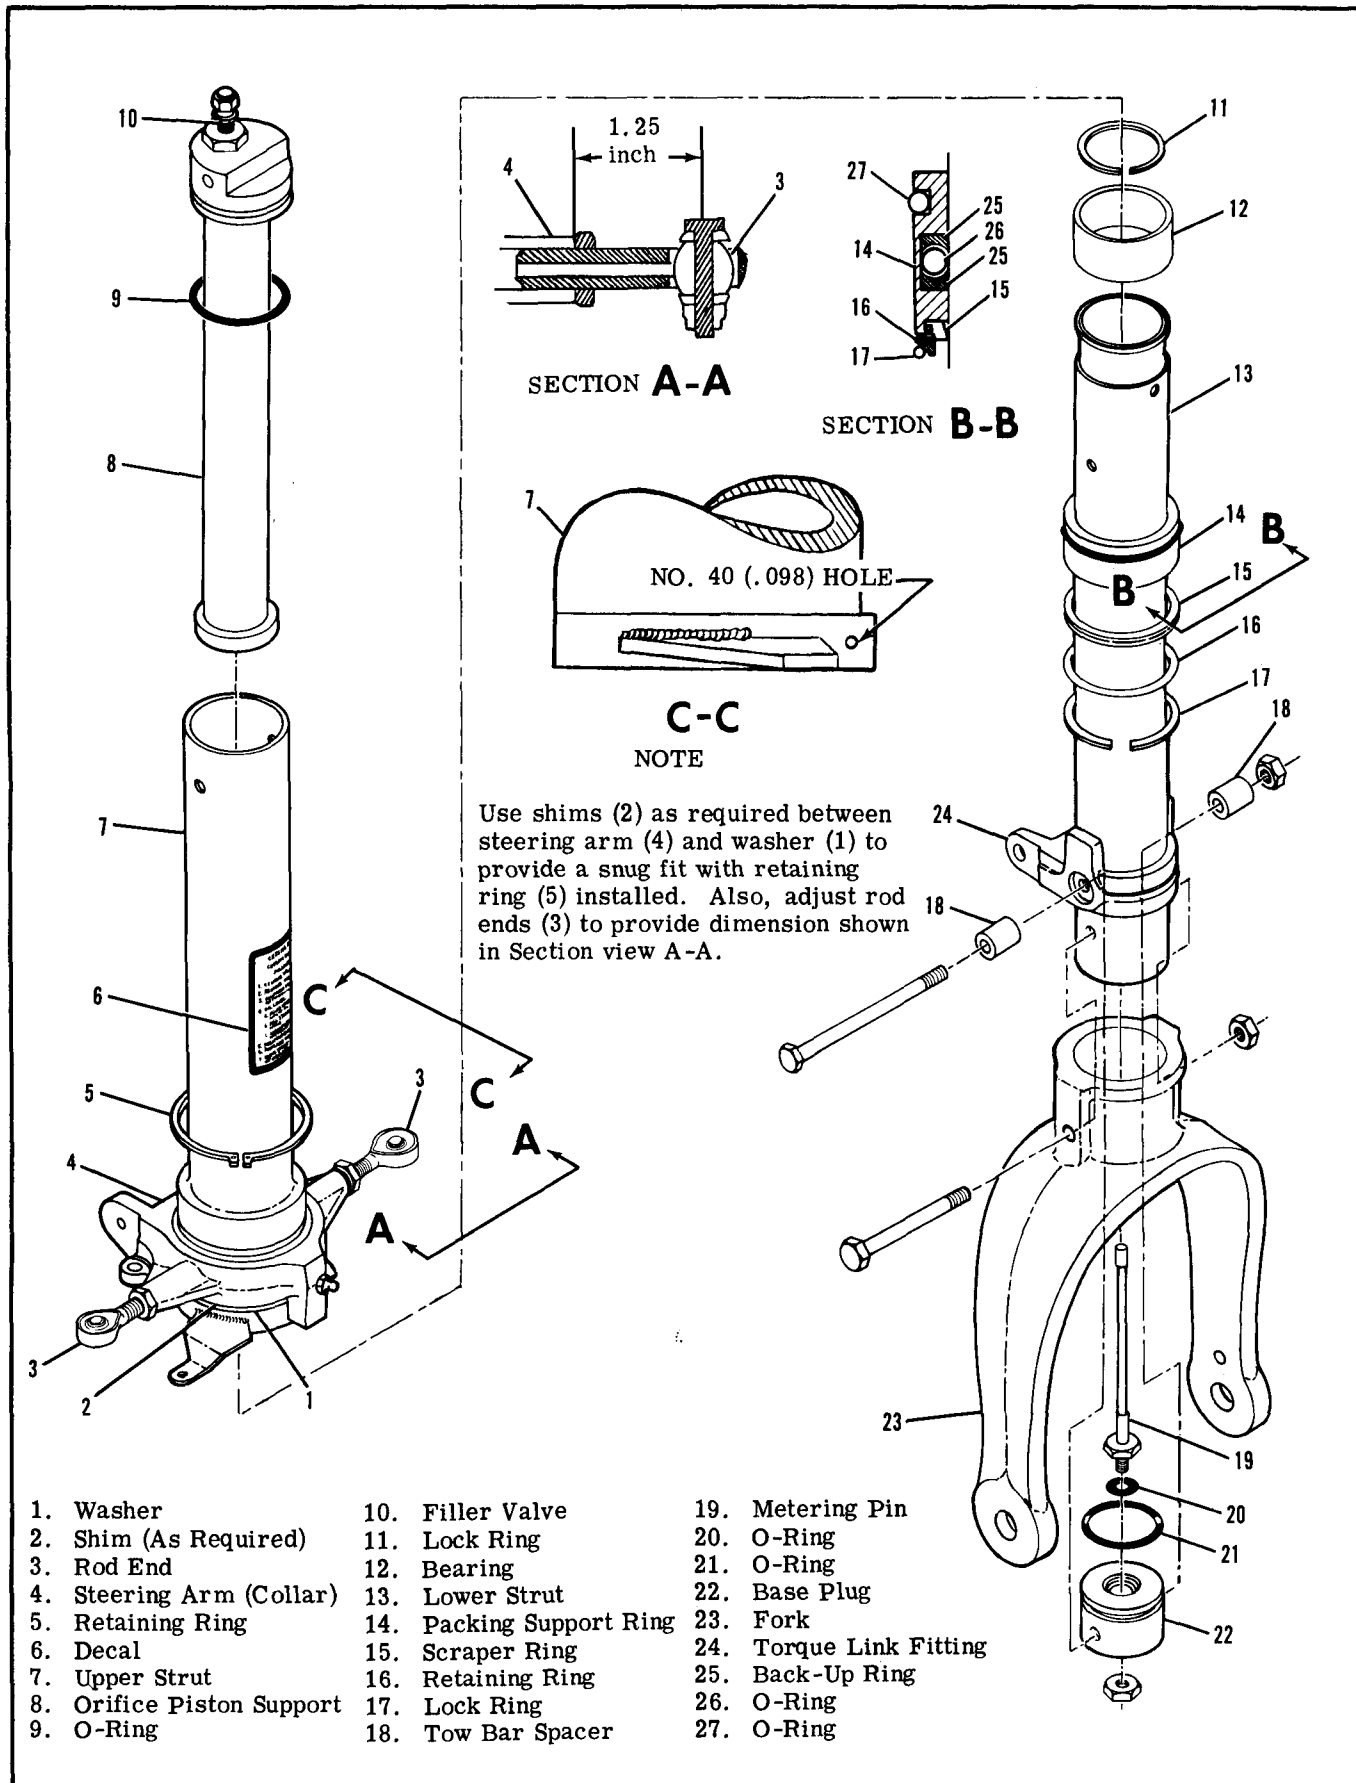

Figure 5-9. Nose Gear Shock Strut
5-35. NOSE GEAR SHOCK STRUT DISASSEMBLY. (Refer to figure 5-9.)
5-36. NOSE GEAR SHOCK STRUT INSPECTION AND REPAIR. (Refer to figure 5-9.)
5-37. NOSE GEAR SHOCK STRUT REASSEMBLY. (Refer to figure 5-9.)
- d. Install rod ends (3) in steering collar (4), and adjust rod ends to dimension specified in Section view A-A in Figure 5-9.
- e. Install O-ring (9) and filler valve (10) in orifice piston support (8) and install orifice piston support in upper strut (7).
- f. Install O-ring (21) and metering pin assembly in lower strut (13); install bolt attaching fork (23) to lower strut.
- g. Align base plug (22) holes with holes in lower strut/fork (13) and (23) assembly; install bolt and tow
- h. Install lock ring (17), retaining ring (16) and scraper ring (15) on lower strut, making sure they are installed in same positions as they were removed.
- i. Install O-rings (26) and (27) and back-up rings in packing support ring (14); slide packing support ring over lower strut (13).
- j. Install bearing (12) and lock ring (11) at upper end of lower strut assembly. Note top side of bearing.
- l. Install lock ring (17) in groove in lower end of upper strut. Position lock ring so that one of its ends covers the small access hole in the lock ring groove at the bottom of the upper strut. (Refer to Section C-C in figure 5-9.)